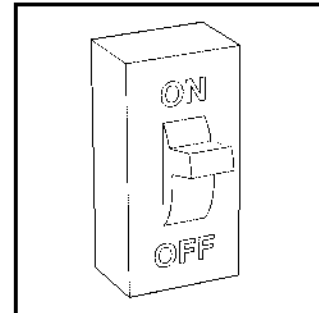

Fig. 10 - Turn On Electrical Supply
9. Turn ON the electrical supply to the furnace. See Fig. 10.
7. Turn on electrical supply to furnace (See Fig. 10).
4. Restore electrical power to the furnace. (See Fig. 10.)